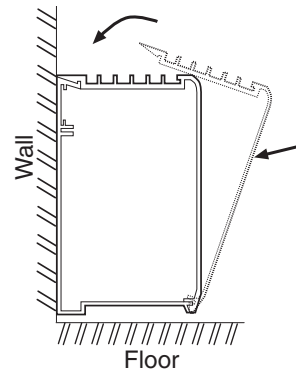

Fig. 4
17. Before energizing, make sure front cover is properly locked onto the back housing along the entire length of the heater, see Fig. 4. Do not operate heater without front cover installed.
10. Replace front cover by latching the bottom front edge of the front cover over the bottom front edge of the back and pushing the cover straight back to latch the top rear edge of the back with the top rear edge of the front cover. See Fig. 4.
10. Replace front covers following Step 10, Single Unit Installation (See Fig. 4.)
5. Replace front cover as shown in Fig. 4 making sure it is locked in position along length of heater. Restore power to heater and verify it is operating properly.